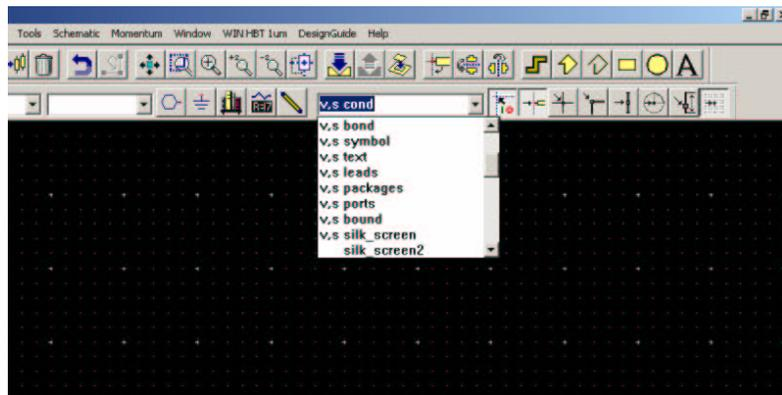

Figure 2: ADS Layout screen displaying layer pull-down menu.
- 1) Once the suggested footprints (or precise measurements) are obtained, the footprints can be created. The first step is to choose what layer(s) to use. Most basic PCB layouts will consist of a top plane (where the components will be soldered) and a bottom plane (which is usually a ground plane). A layer can be selected by using the pull-down menu on the upper right of the ADS layout screen as shown in figure 2.